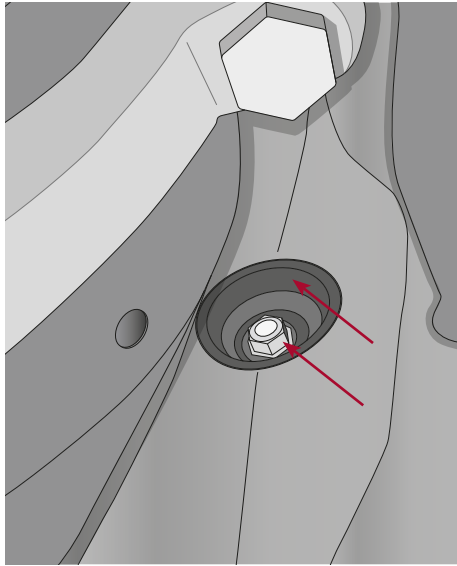

Figure 139: Inspecting Adjuster & Boot
3. Inspect the adjuster boot and plug for wear, damage or deterioration. Refer Figure 139.